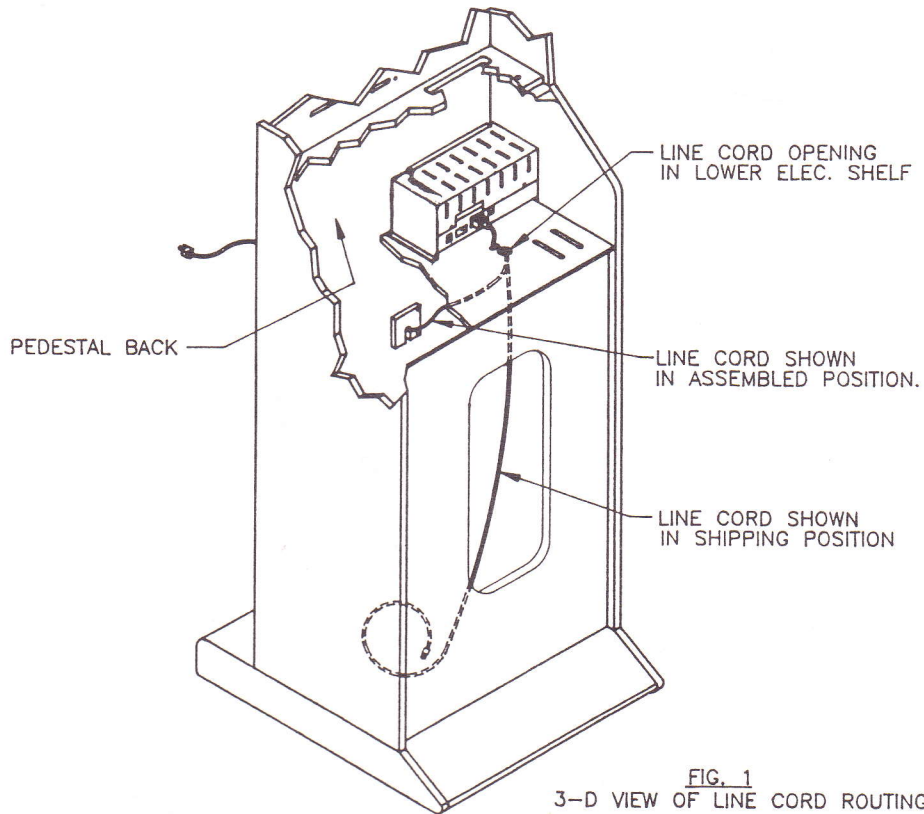

FIG. 1
5. This game is equipped with an easily replaceable power/line cord. The cord is located inside the pedestal when shipped and must be routed through the opening at the back of the game prior to operation. To do this, follow the instructions below, referring to the illustrations on page 2. Review FIG. 1 on page 2 before proceeding.